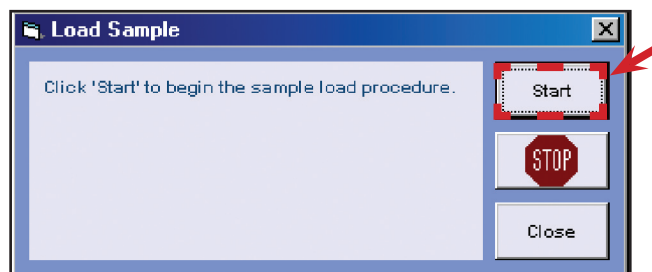

Figure 3.22: Load Sample Window
- Click Load Sample and then Start button. The motorized X-Y stage will move the puck towards you to the limit of it's range. (Figure 3.22)